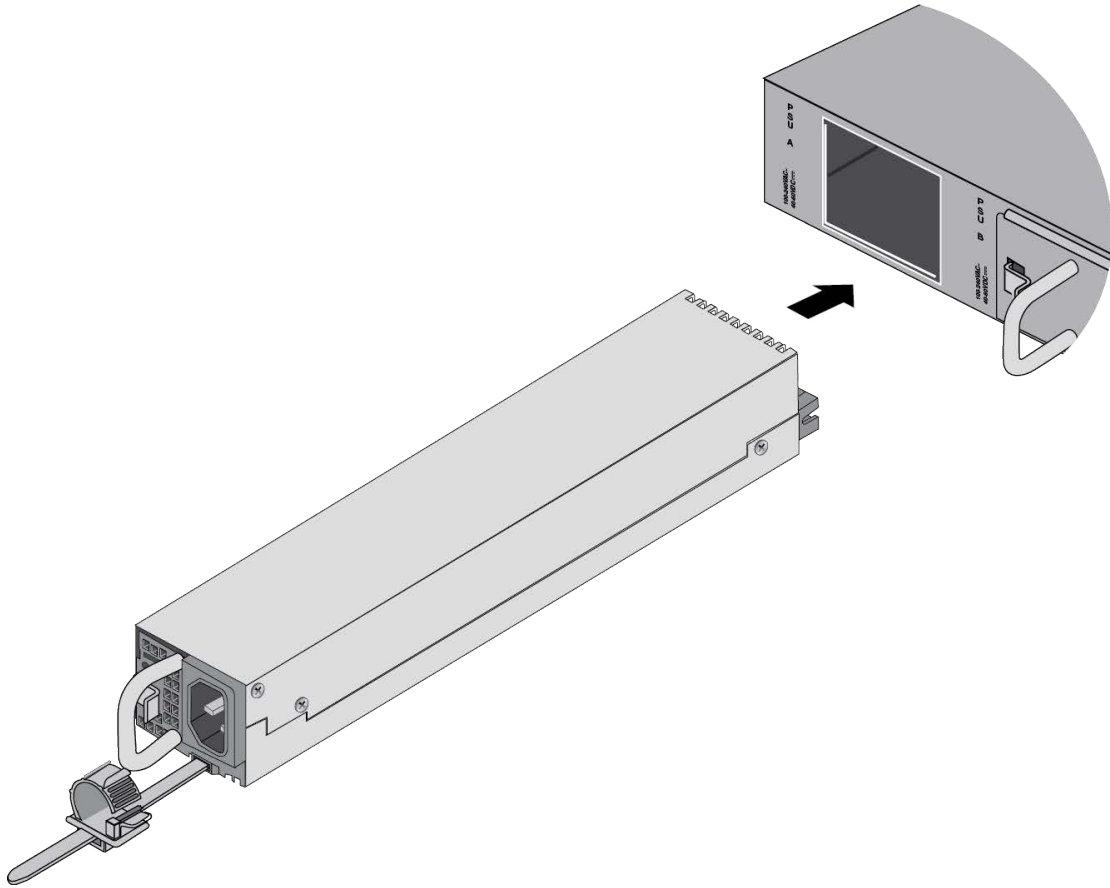

Figure 58. Sliding the AT-PWR600 or AT-PWR600R AC Power Supply into the Chassis
3. Carefully align the power supply in the slot and slide it into the slot. Figure 58 shows the module aligned for the PSU A slot.